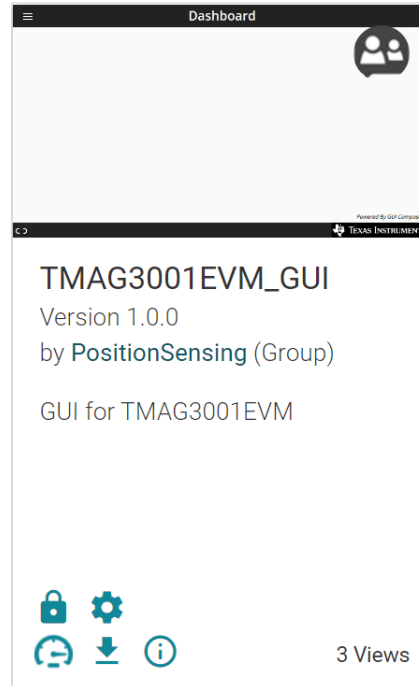

Figure 3-5. GUI Composer Application Window
3. Click the GUI Composer application window shown in Figure 3-5 to launch the GUI from the web browser.
4. Click the  icon in the *GUI Composer* window shown in Figure 3-5 to download the GUI offline (optional).